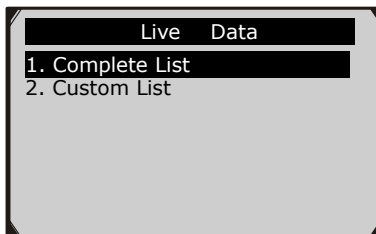

Figure 5.10
- 1) To view complete set of data, use **UP/DOWN** scroll button to select **Complete List** from **Live Data** menu and press the **OK** button. (Figure 5.10)
- 1) To view customized PID data, use the **UP/DOWN** scroll button to select **Custom List** from **Live Data** menu and press the **OK** button.(Figure 5.10)